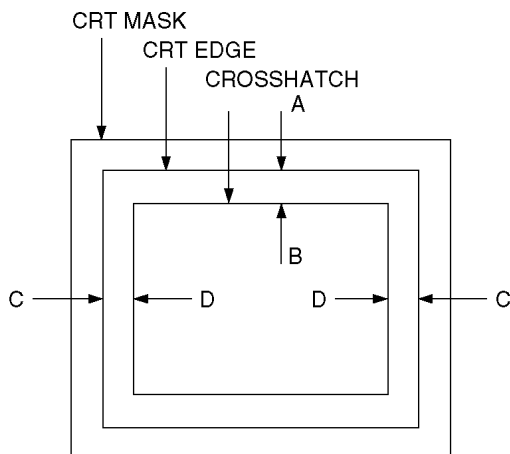

Fig. 8
1. Adjust V-AMP (VGA) so that  $A=B$  in the Fig. 8.
1. Adjust H-AMP (VGA) so that  $C=D$  in the Fig. 8.